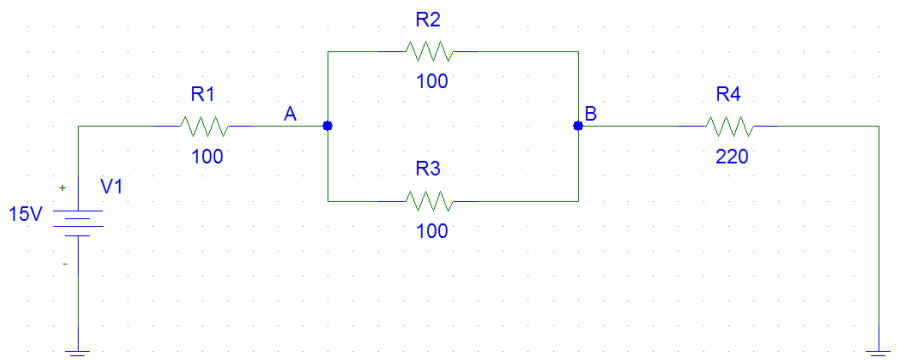

Figure 2: DC circuit with resistors.
Edit the circuit in Figure 2. Use the command **Draw/Get New Part** to get the various components: a voltage generator (VDC), resistors (R) and GROUND (EGND). Store the file by creating a new folder called **"My Documents\Prac1"**. This folder **MUST BE DELETED** at the end of the Lab.